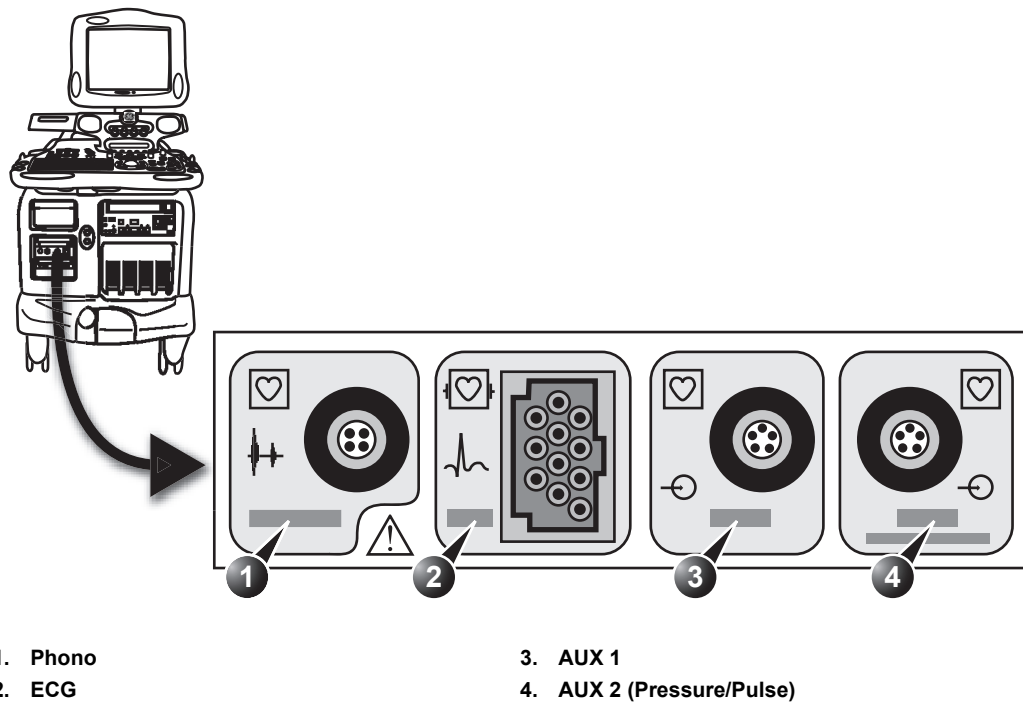

Figure 2-7: The patient (I/O) connection panel
1. **Connect** the ECG trunk cable into the rectangular-shaped socket marked *ECG* on the patient trace (I/O) panel. The patient trace (I/O) panel is located in the front left of the ultrasound unit (see Figure 2-7).
1. **Plug** the connector into the socket marked *Phono* on Patient (I/O) panel (see Figure 2-7).
1. **Plug** the pulse pressure cable into the socket marked *AUX2 Pressure/Pulse* on Patient (I/O) panel (see Figure 2-7).